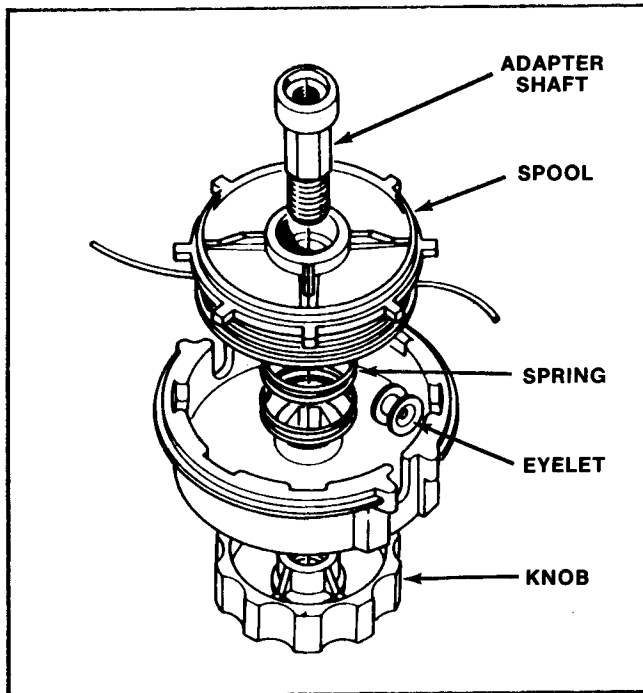

Figure 145
1. Prepare for reassembly by placing the spring on the drum as shown in Figure 145.